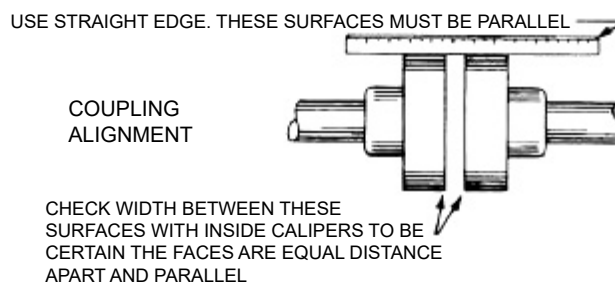

FIGURE 6
1. If the unit has a flexible coupling, remove any coupling guards or covers and check alignment of the coupling halves. A straight edge (piece of key stock will work) across the coupling must rest evenly on both rims at the top, bottom and sides. See **Figure 6**.